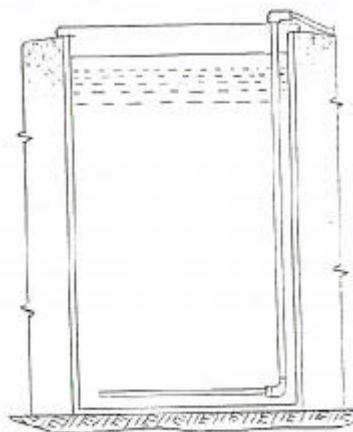

Figure 2
**Figure 2.** Fill the 55 gallon drum approximately 3/4 full of water; insert Volcano Rod (as in figure 2); plug into a 120-volt grounded outlet with ground fault interrupter. heating will begin instantly. Do not energize the unit unless it is immersed in water. This will void the warranty.